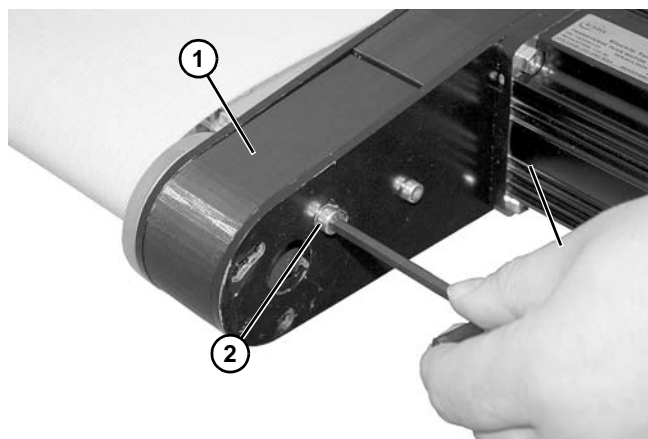

Figure 13
15. Install upper guard (Figure 13, item 1) and tighten screw (Figure 13, item 2).